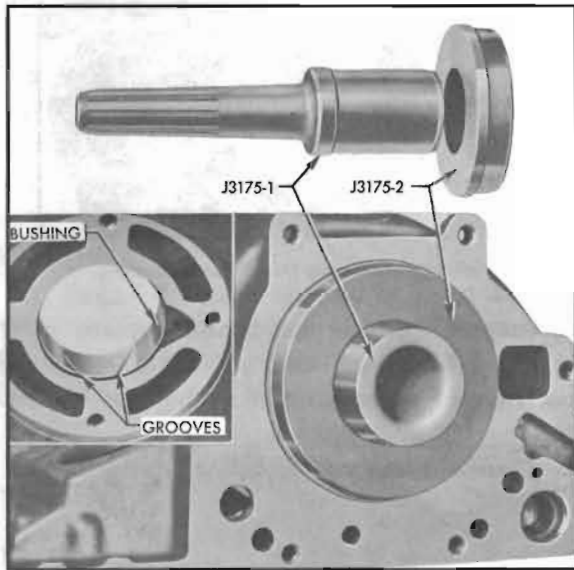

Figure 5-86—Transmission Case Bushing Remover and Replacer J 3175
5. To remove old bushing, place case over an opening with rear end down and drive bushing from case with Remover J 3175-1. To install new bushing place J 3175-2 in rear oil pump recess of case to serve as a pilot, slip bushing over J 3175-1 and drive bushing into case from front side until bushing is flush with front surface of wall which supports the bushing. Bushing must be installed with the wide deep ends of oil grooves toward rear side of case. See figure 5-86.